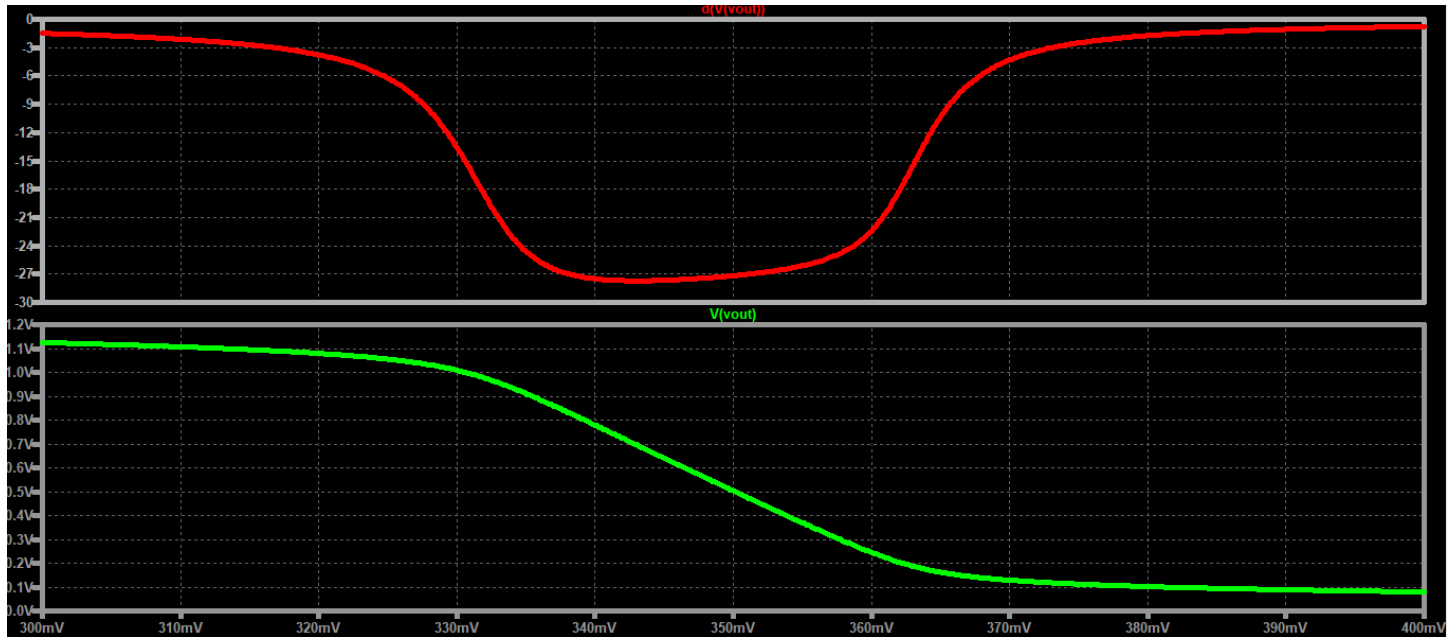

Figure 2.9 V_{OUT} and A_v versus V_{GS} or V_{IN}
3. Run the simulation and create two plotting planes. Let the top plane be A_v vs. V_{GS} . Let the bottom plane be the gain V_{OUT} vs. V_{GS} . You should get Figure 2.9 if done correctly.
Muy bien! Figure 2.9 shows the A_v vs V_{GS} plot. There are a few things to observe: